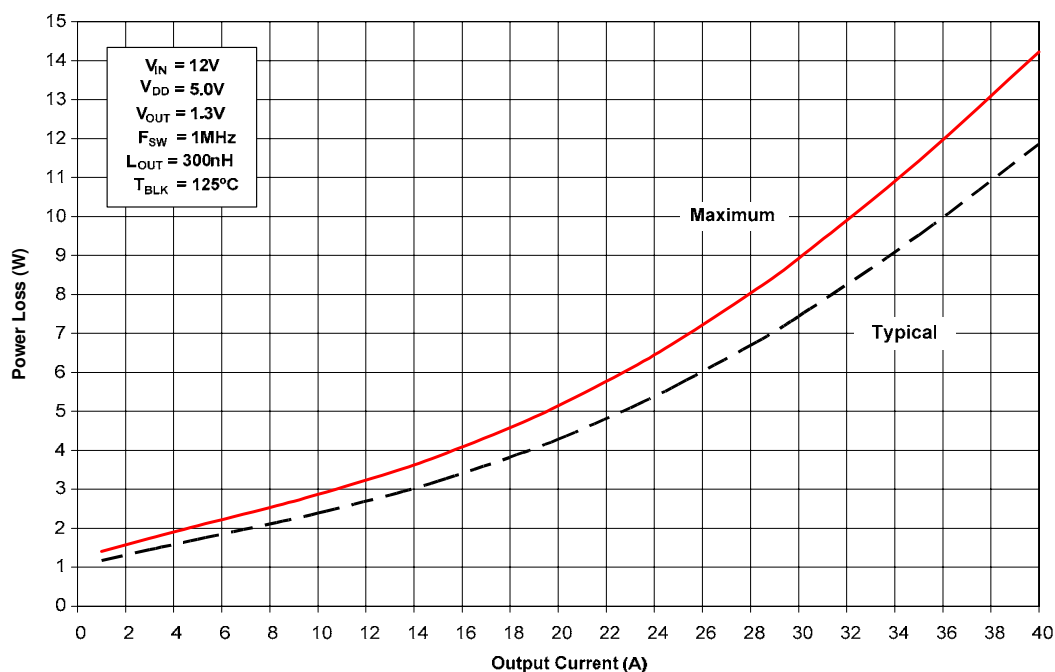

Figure 1 Power Loss Curve
1. Determine the maximum current for each iP2005A and obtain the maximum power loss from Figure 1
3. The maximum power loss under the application conditions is then the product of the power loss from Figure 1 and the normalized values.
| (Figure 1) | Maximum power loss = 9.0W                                 |